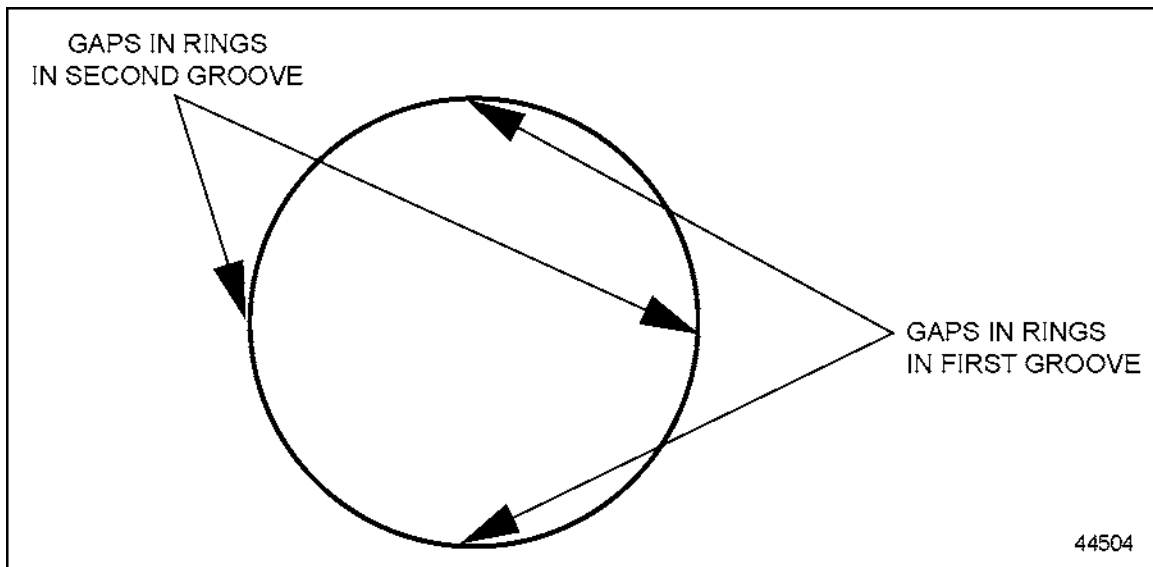

Figure 1 Sealing Ring Gap Location- Exhaust Manifold
2. Ensure that the gaps on the sealing rings in each groove are 180 degrees from each other, and turn the set of rings in the neighboring groove 90 degrees so that the net effect is a gap every 90 degrees. See Figure 1.